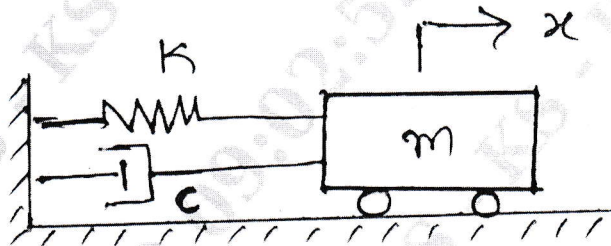

Fig.Q8(b)
- b. Find the equation of motion for the system shown in Fig.Q8(b) when $\xi = 2$. If the mass m is displaced by a distance of 3cm and released.